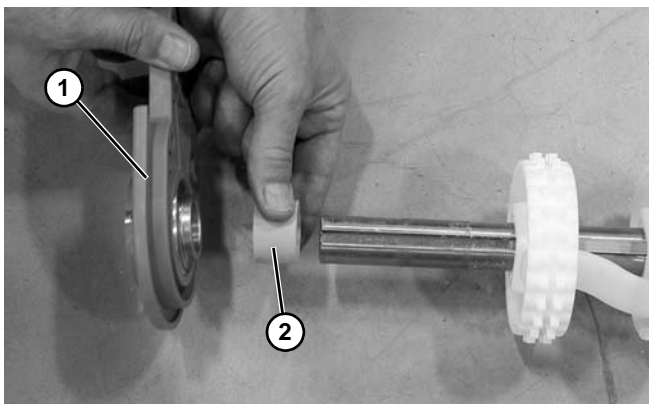

Figure 60
8. Slide the headplate with bearing (**Figure 60, item 1**) and spacer (**Figure 60, item 2**) off the drive spindle.